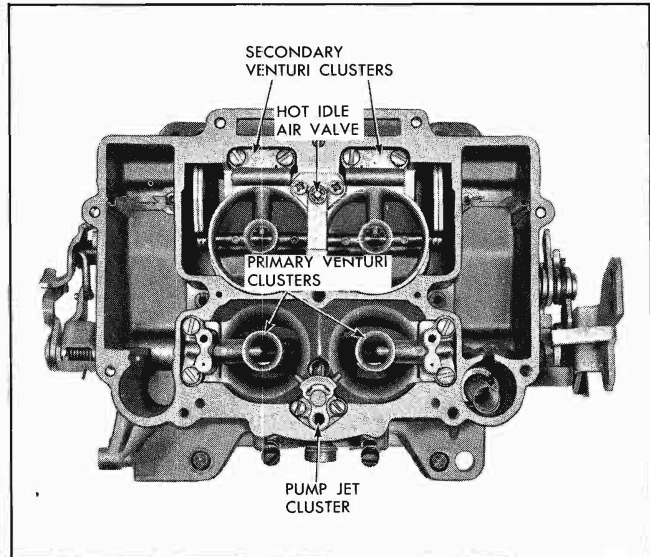

Fig. 6B-91 Venturi Clusters Installed
20. Install primary venturi and gaskets on choke and pump side of carburetor (Fig. 6B-91).